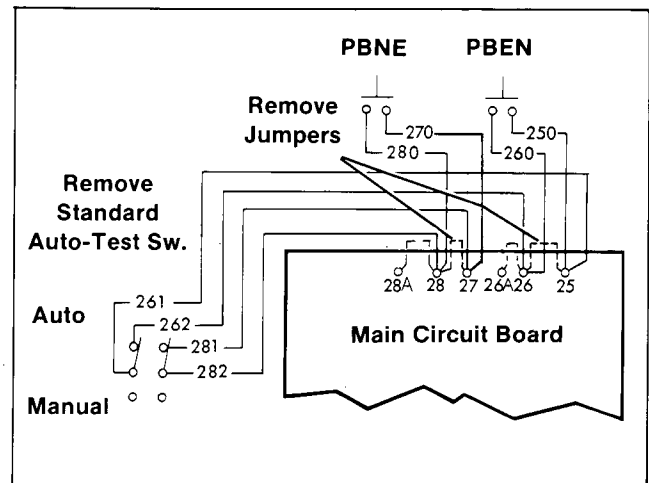

Figure 18. 29-F, G Connections
- **Acc. 29-F, G—Switch** to select either AUTO or MANUAL mode of operation from normal to emergency or emergency to normal. AUTO has standard sequence of operation. When in manual position sequence of operation same as in Acc. 29-B, D. See Figure 18 for connections.